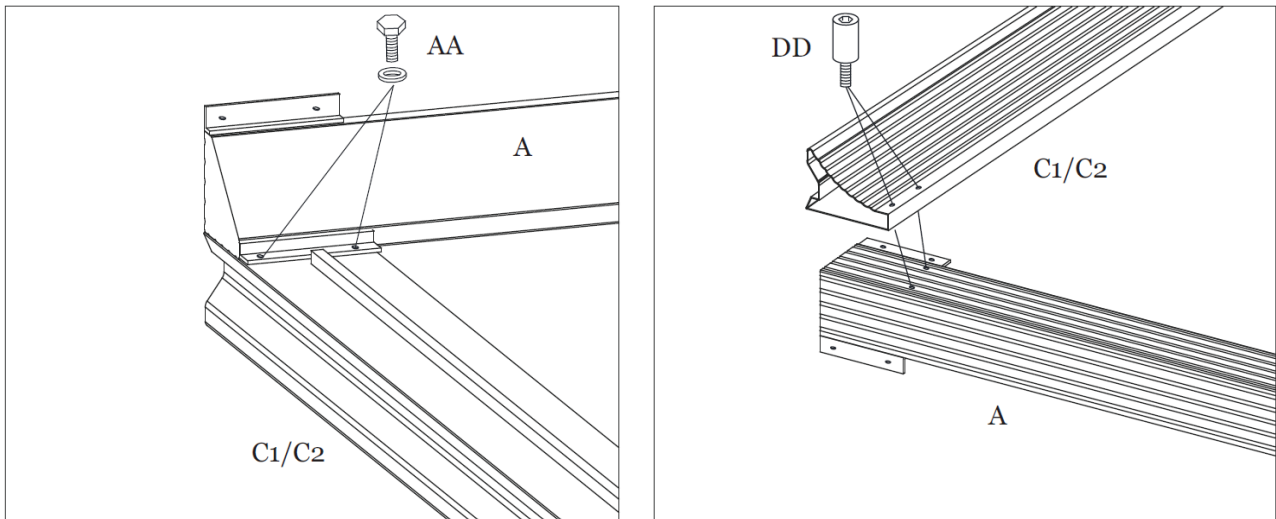

Figure 3-1
Step 3A: Attach Corner Posts (A) to end of Long Lintels (C1 and C2) first with Bolts (AA) then with Bolts (DD). **Tighten all Bolts.** See Figure 3-1.